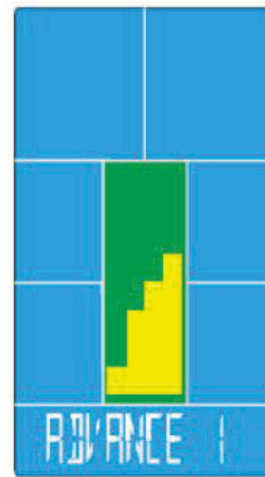
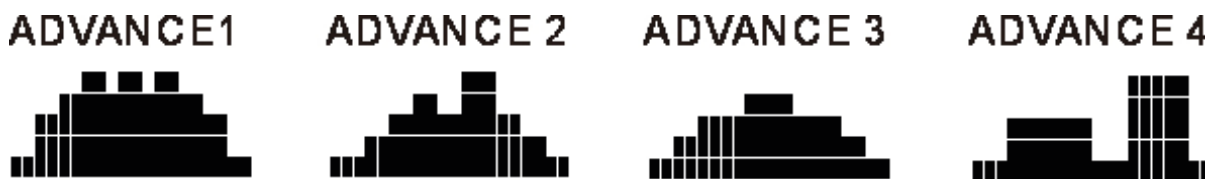

Fig. 8
Fig. 9
*You can now choose from Advance 1 - 4 (see fig. 8 and fig. 9).*